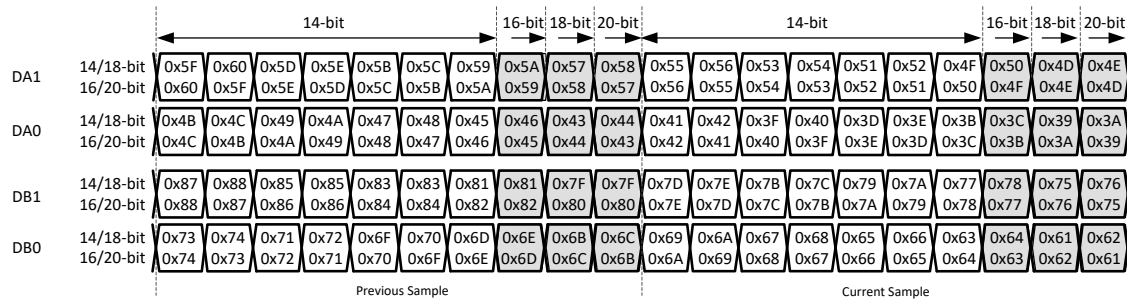

图 8-42. 2-wire output bit mapper
**2-wire mode:** in this mode both the current and the previous sample have to be used in the address space as shown in 图 8-42. The address order is different for 14/18-bit and 16/20-bit. Note: there are unused addresses between samples for resolution less than 20-bit (grey back ground), which can be skipped if not used.